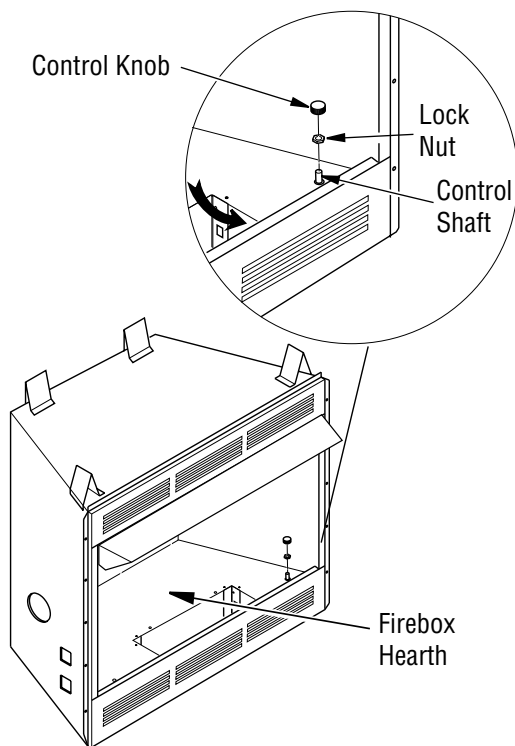

Figure 3 -Attaching Speed Control (Model May Vary From Illustration)
5. Using pliers, remove lock nut from speed control by turning counter clockwise. Mount speed control box by placing plastic control shaft through hole on left or right side of the firebox hearth by sliding control box down through large hole in firebox bottom and up through hole (see Figure 3, page 3). Secure speed control to firebox hearth with previously removed lock nut with pliers by pushing and turning lock nut until it is tight against firebox hearth of fireplace (see Figure 3, page 3).